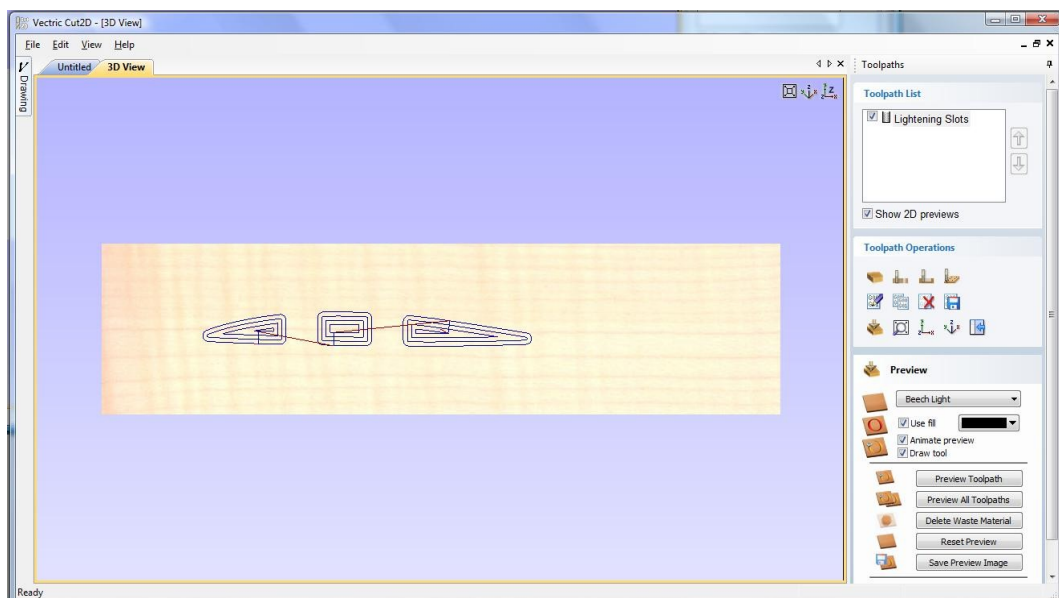

Figure 14. 3D View showing Toolpath & Material
8. Click the **Calculate** button and the resulting toolpath will automatically be drawn in the **3D view** and the **Preview job** form opened, as shown below in Figure 14.